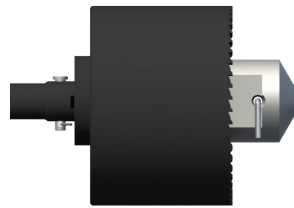

Figure 58
4.7.2) Insert 4" centering tool into pilot bit hole, align through-hole with saw mandrel through-hole and lock in place with cotter pin and clip (see Figure 58).